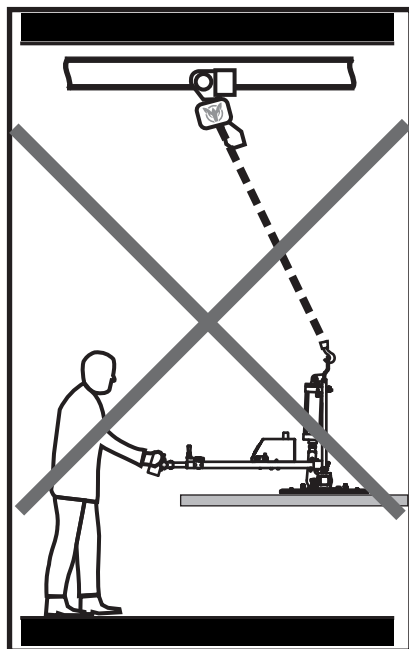

Figure 05
- The load is pulled diagonally (see **Figure 05 on page 6**).